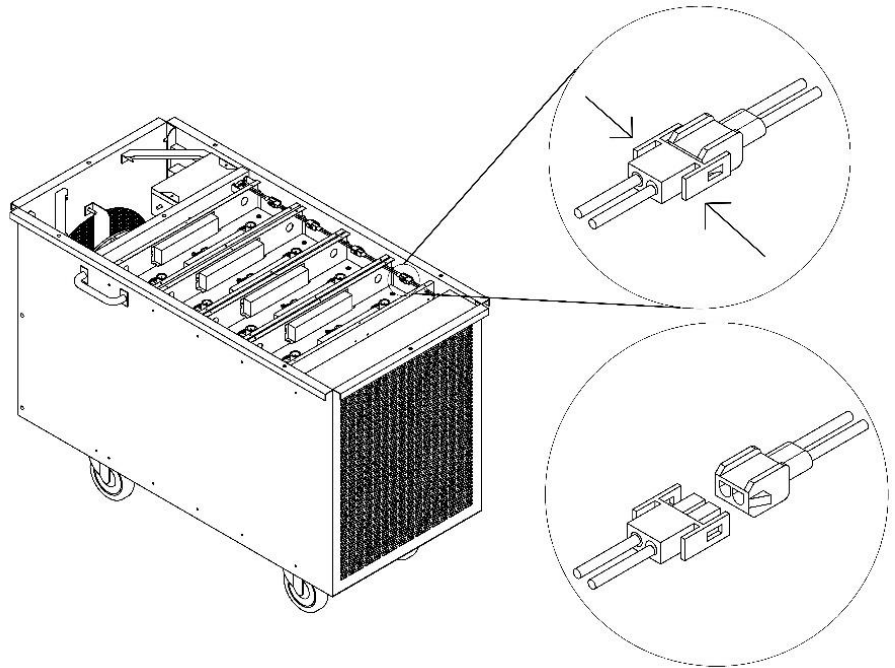

Figure 27
7.) Reconnect 2 pin MOLEX connectors providing power to catalyst panel. See Figure 27.